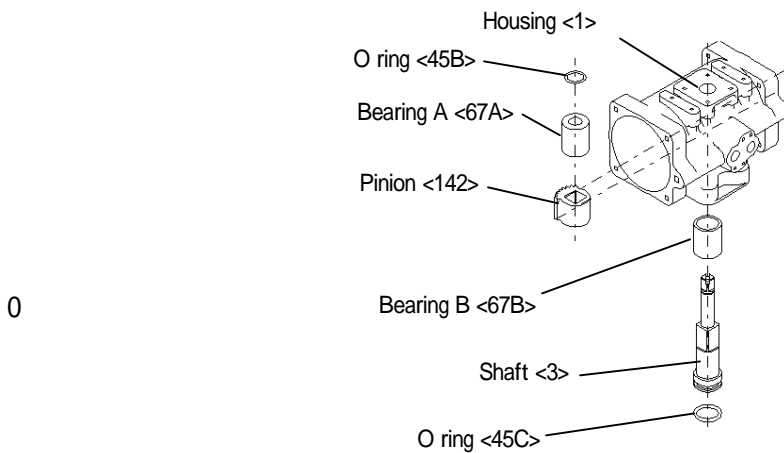

Fig.7
(9) Remove the shaft slowly through the bottom of the housing, holding a pinion gear and a bearing by hand. Another bearing is removed together with the shaft (**Fig.7**) to complete disassembly of the actuator.